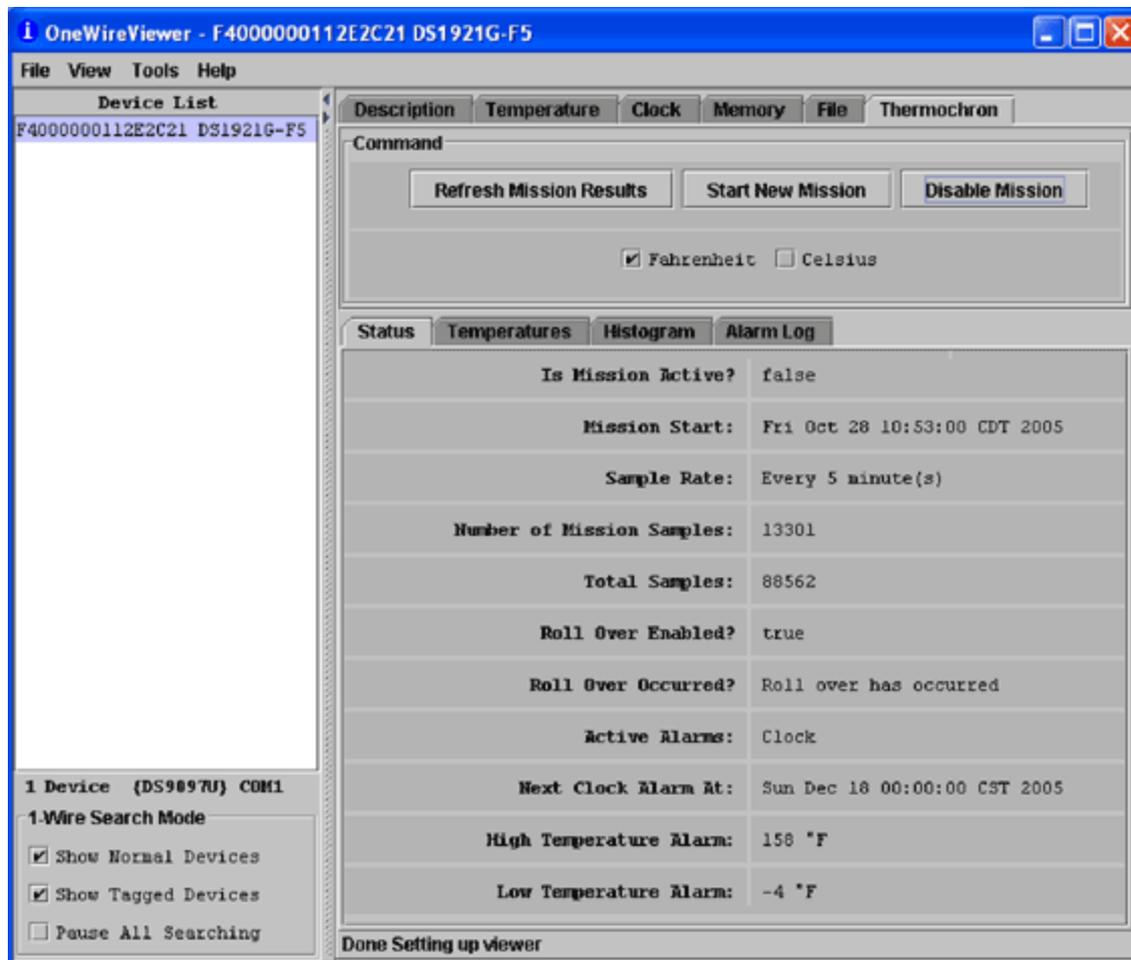
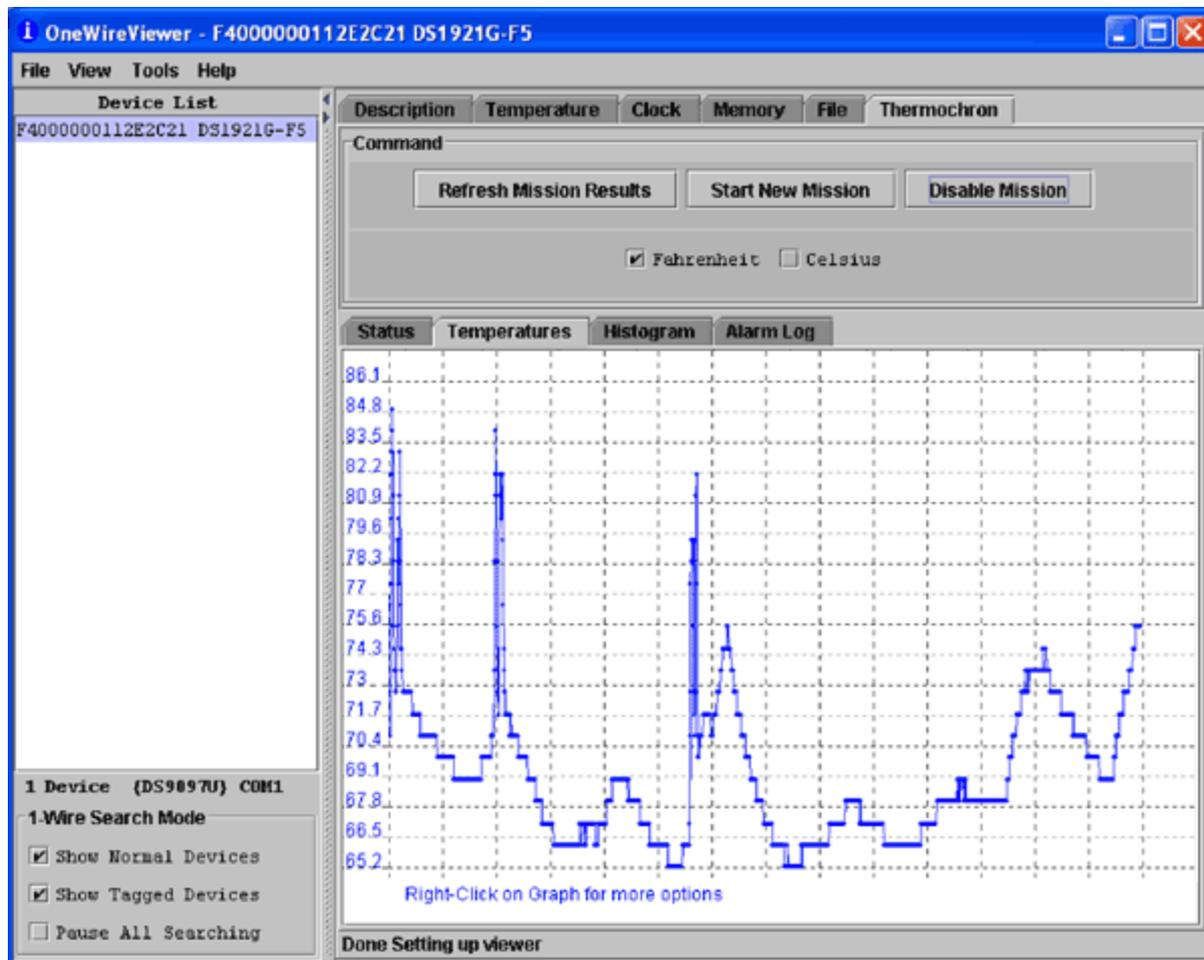

Figure 1. Thermochron viewer screen.
Figure 2. Thermochron temperature vs. time graph.
3. Select the correct ROM ID number from the device list (**Figure 1**).
4. For the DS1921G, open the Thermochron subviewer by clicking on the Thermochron tab. For the other data loggers, this screen does not have a Thermochron tab. Instead, open the Mission subviewer by clicking on the Mission tab (not shown in Figure 1).
7. On the screen in Figure 1, notice that there are two rows of tabs, an upper row and a lower row. Select the lower "Temperatures" tab. This displays graphically the Thermochron log of temperature vs. time (Figure 2).